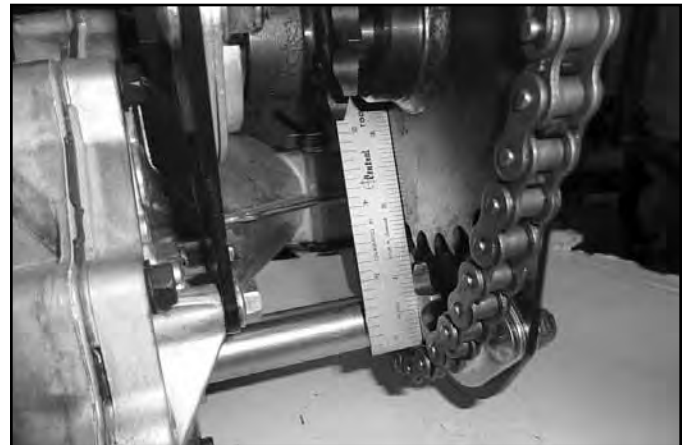

Fig. 122
4. The sprockets should be exactly aligned with one another (Fig. 122).